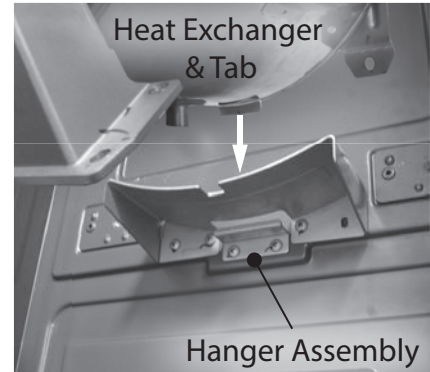
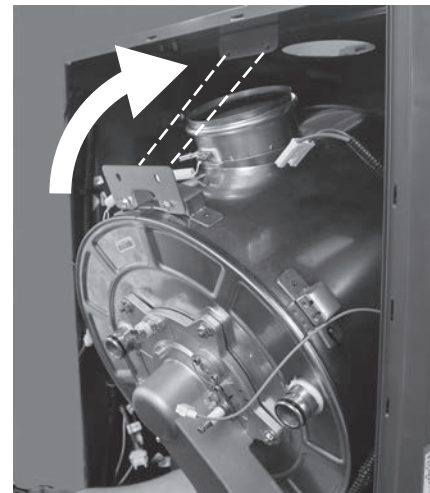

Figure 154 - Insert tab into hanger
Figure 155 - Install heat exchanger to water heater
**53** Locate the top two (2) install bracket screws previously removed in **Step 47**. Place both screws and a Phillips screwdriver on top of water heater cabinet for ease of access when installing heat exchanger.
**54** Lift heat exchanger into water heater cabinet. Lean the top side of heat exchanger slightly toward you so the tab at the bottom inserts into the hanger assembly as shown in Figure 154. Once the tab is inserted, push heat exchanger upright so the screw holes in the install bracket align with bracket in cabinet as shown in Figure 155.